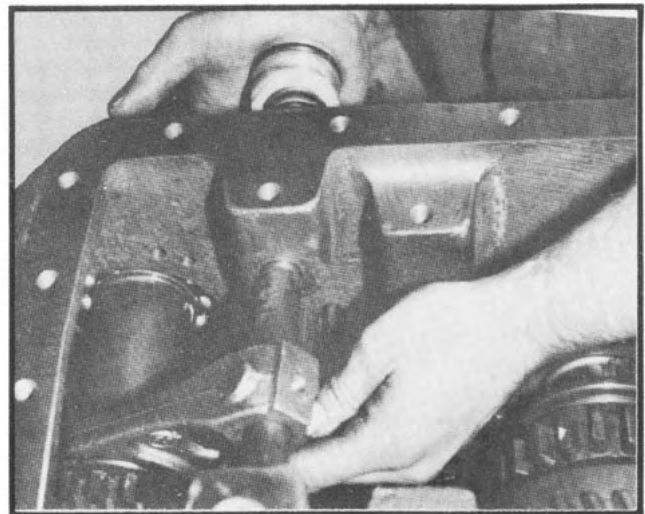

Fig. 34
6. Insert shift shaft through front housing bore closest to bottom of housing. As the shaft enters inside of housing, insert shaft through shift fork located on lower shaft clutch gear and slide shaft into rear housing bore (See fig. 34). Rotate shaft so flat section of shaft is turned away from the front drive indicator switch hole.